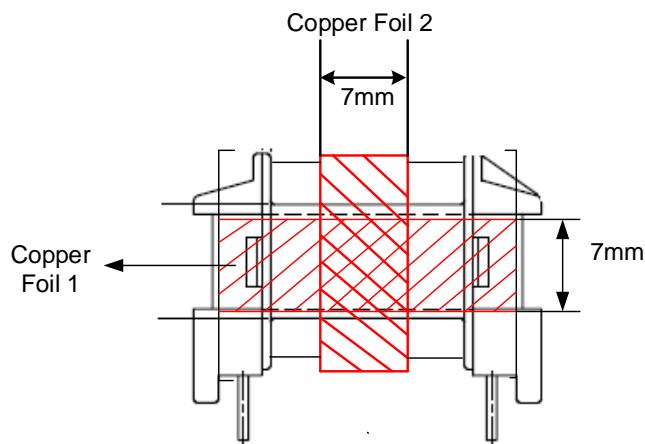

Figure 5: Copper Foil 1 and Copper Foil 2
2. Wrap one copper foil closed around the core. Wrap a second copper foil closed around the windings. Then solder the copper foil to pin 5 (connected to primary ground) using 0.2mm wire (see Figure 5).